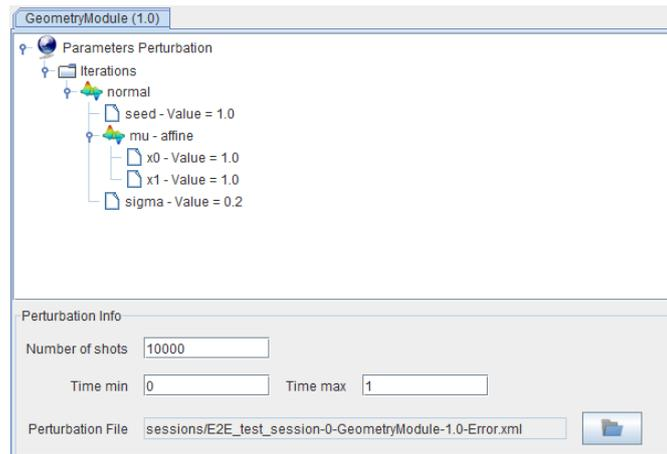

Figure 4-90: Complex perturbation for a parameter
- ❑ Perturbations can be combined to obtain more complex perturbations by adding perturbations to the same parameter. This is illustrated in Figure 4-90.